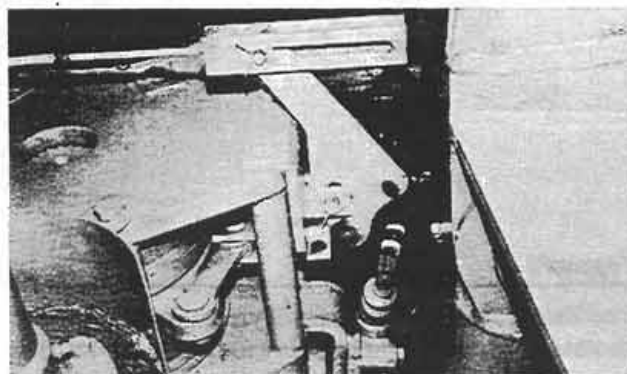

Figure 1:
1. Disconnect the actuator yoke and push rod clevis from the lever (Fig. 1).